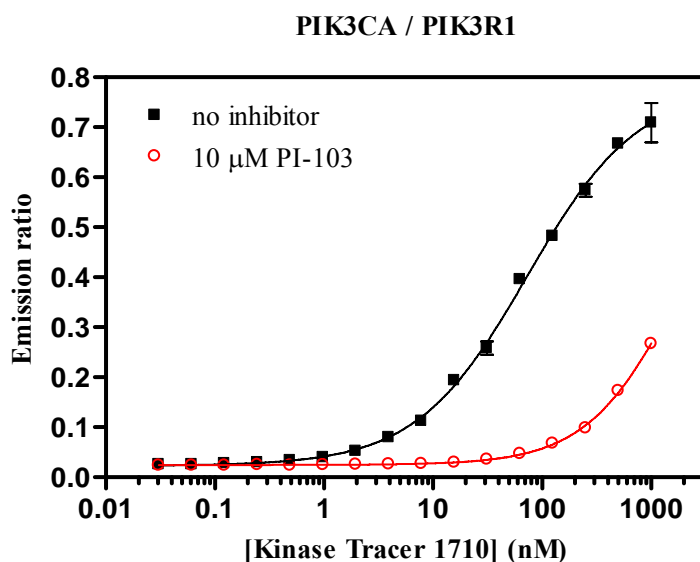

Figure 4. Tracer titration curve.
2. Plot [tracer] versus emission ratio for the competitor (PI-103) and control (DMSO only) (Figure 4). The sigmoidal dose-response curve with a variable slope can be fit to the data (optional). The following equation can be used with GraphPad™ Prism software: